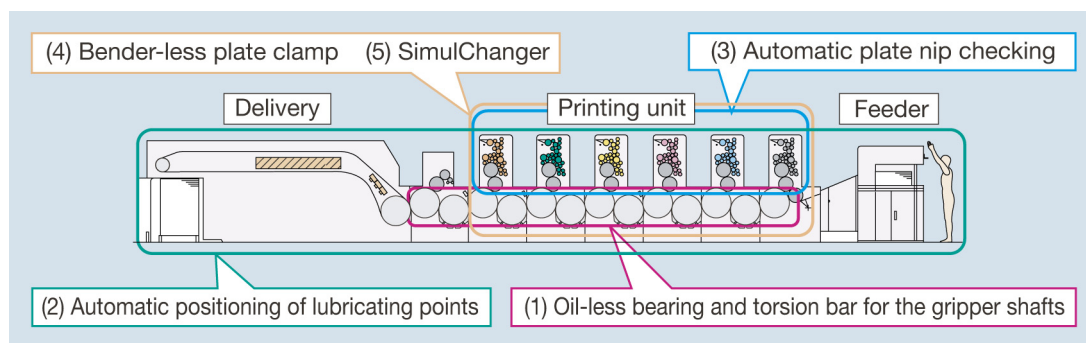

Figure 2 Major productivity improvement items
**Figure 2** shows the major productivity improvements.